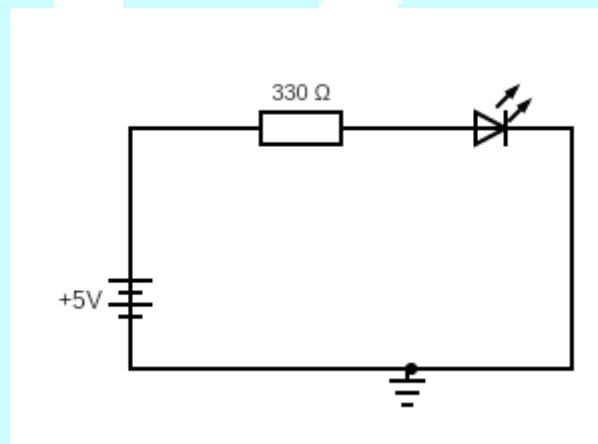

Figure 1. Series LED circuit used in the experiment.
5. Wire the series circuit in Figure 1. Put the ammeter in series. Put the voltmeters across the resistor and LED.